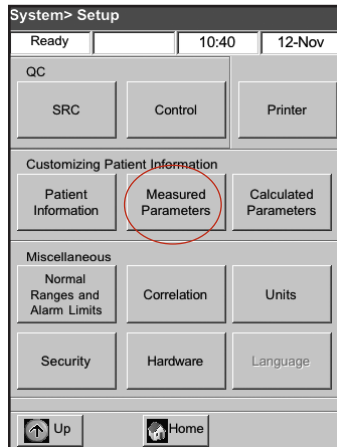

Figure H-10: System > Setup screen
3. From the Setup screen, tap **Measured Parameters** (Figure H-10).